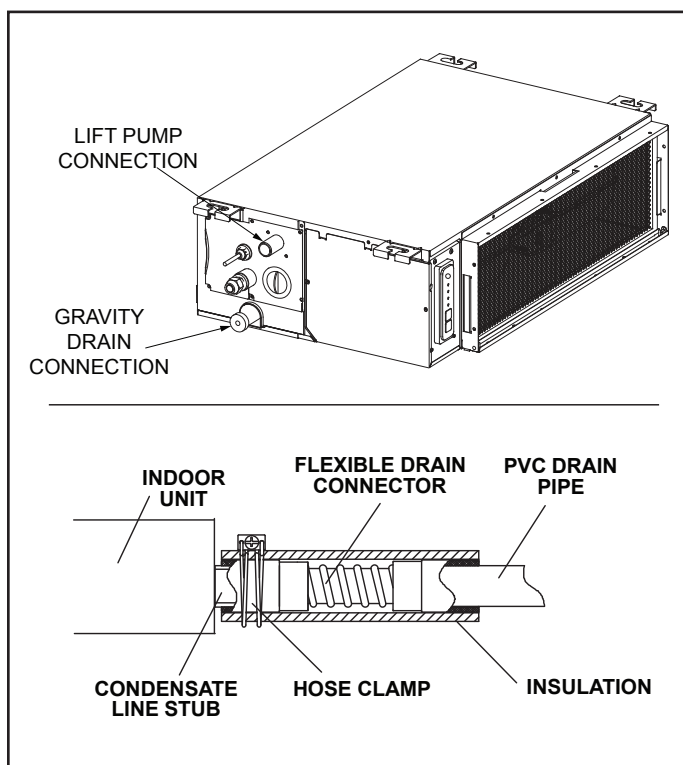

Figure 16. Condensate Drain Connection
1. Use the provided hose clamp to secure the provided flexible condensate drain connector and insulating sleeve to the drain line stub on the side of the indoor unit. See Figure 16. **NOTE** - Take care not to overtighten the hose clamps this may damage the drain line stub.